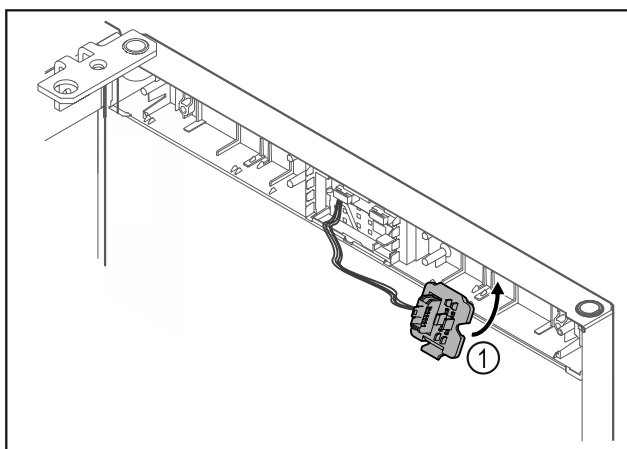

Fig. 11
- Snap in the plug holder Fig. 11 (1) on the opposite side.